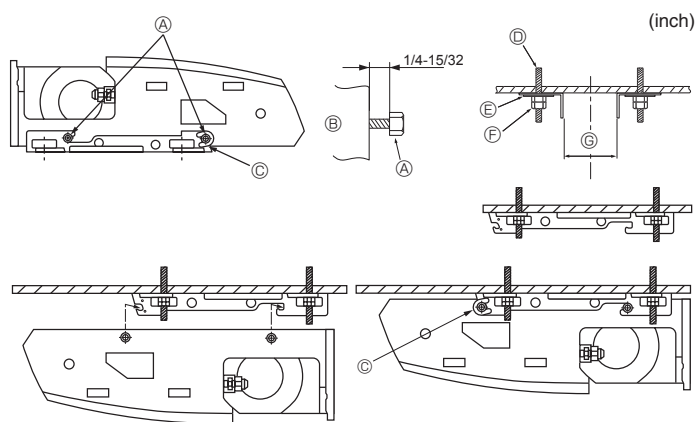

Fig. 3-7
2) Installing the suspending bracket first onto the ceiling (Fig. 3-7)